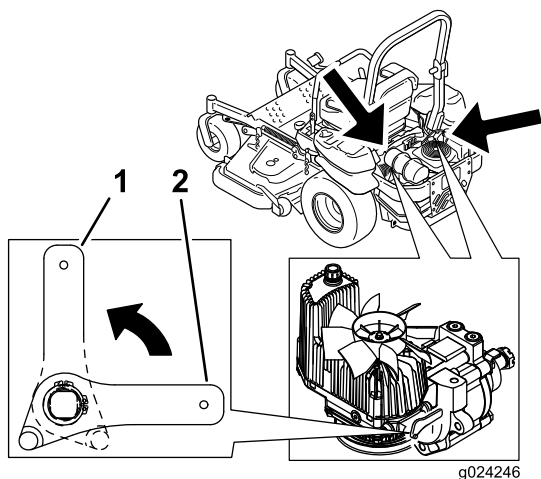

Figure 33
2. Rotate the release valve levers vertically to push the machine. This allows hydraulic oil to bypass the pump enabling the wheels to turn (Figure 33).
4. Rotate the release-valve levers horizontally to run the machine (Figure 33).